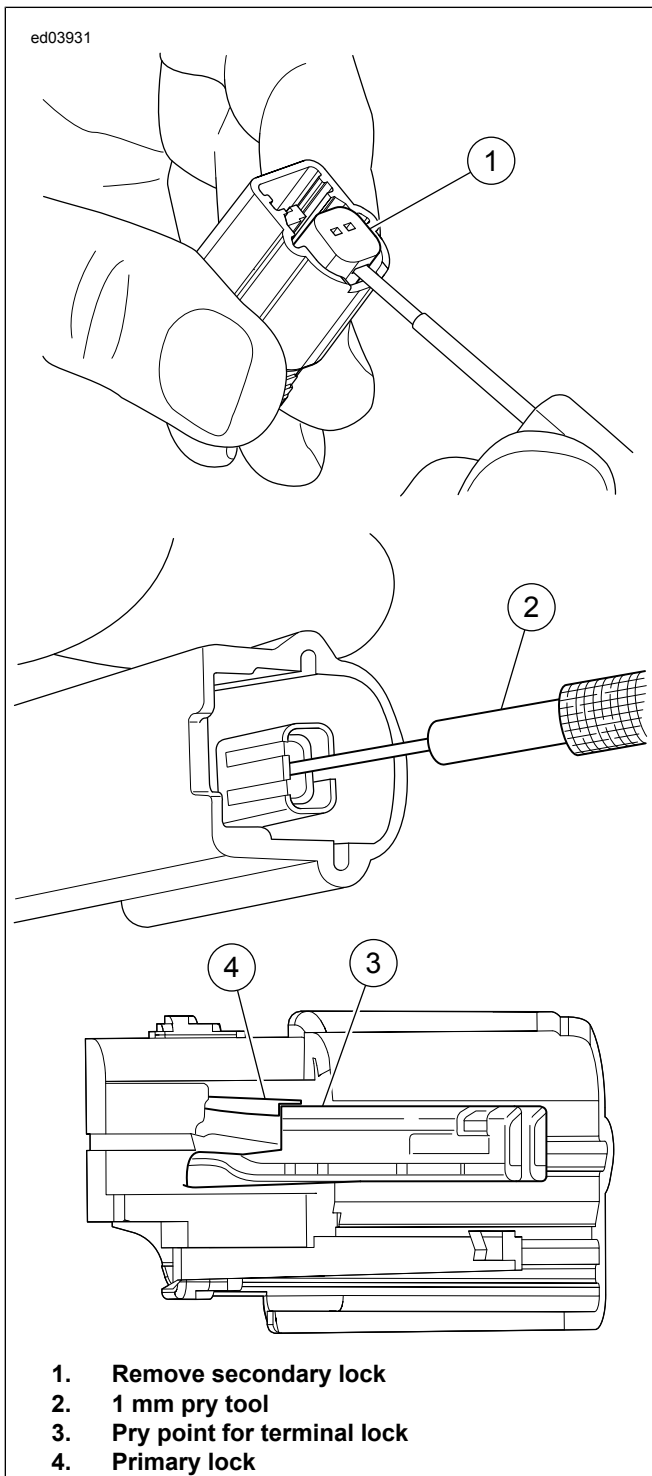

Figure B-35. Removing Terminals in MX64 Series Connector
1. See Figure B-35. Using a small blade screwdriver pry up on the secondary lock and remove.